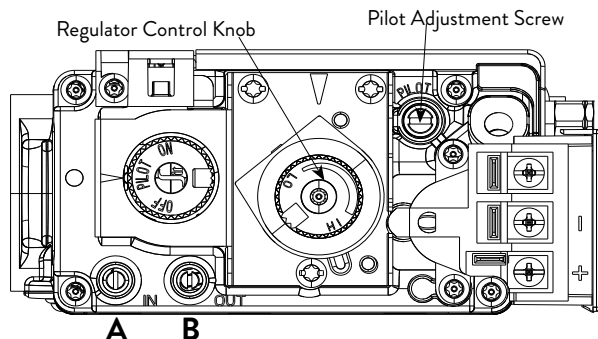

Figure 7.2.1 Valve pressure test points and pilot adjustment.
**Pressure Test:** Attach a manometer to the appropriate test point on the valve. See fig. 7.2.1. The gauge connections are located on the front of the valve. Connections are identified by: